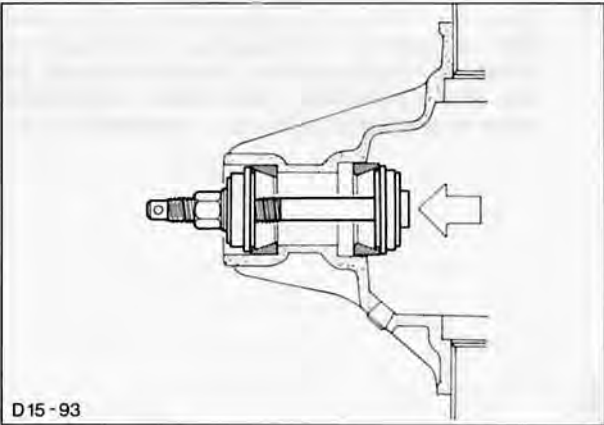

Fig. 107. Install outer bearing cup
12. Remove and install outer bearing cup of drive pinion taper roller bearing using Special Tool, Fig. 107.